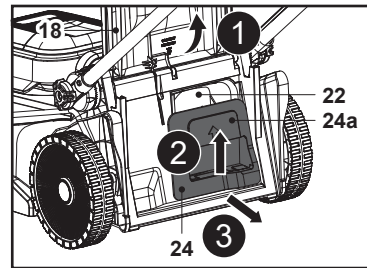

Fig. 14
2. Lift the recess handle (24a) and then pull the mulching insert (24) out of the rear discharge chute (22), then remove the mulching insert (24) (Fig. 14).